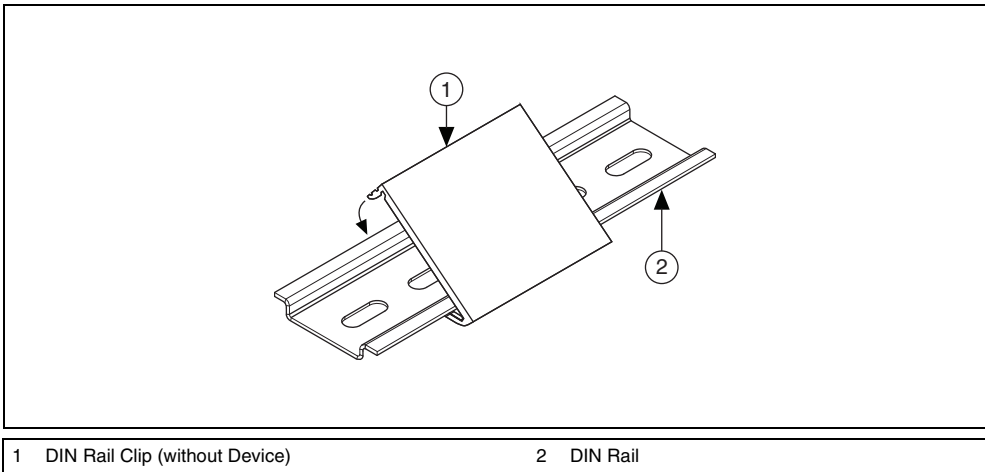

Figure 6. DIN Rail Clip Installation
2. Insert one edge of the DIN rail into the deeper opening of the DIN rail clip, as shown in Figure 6.